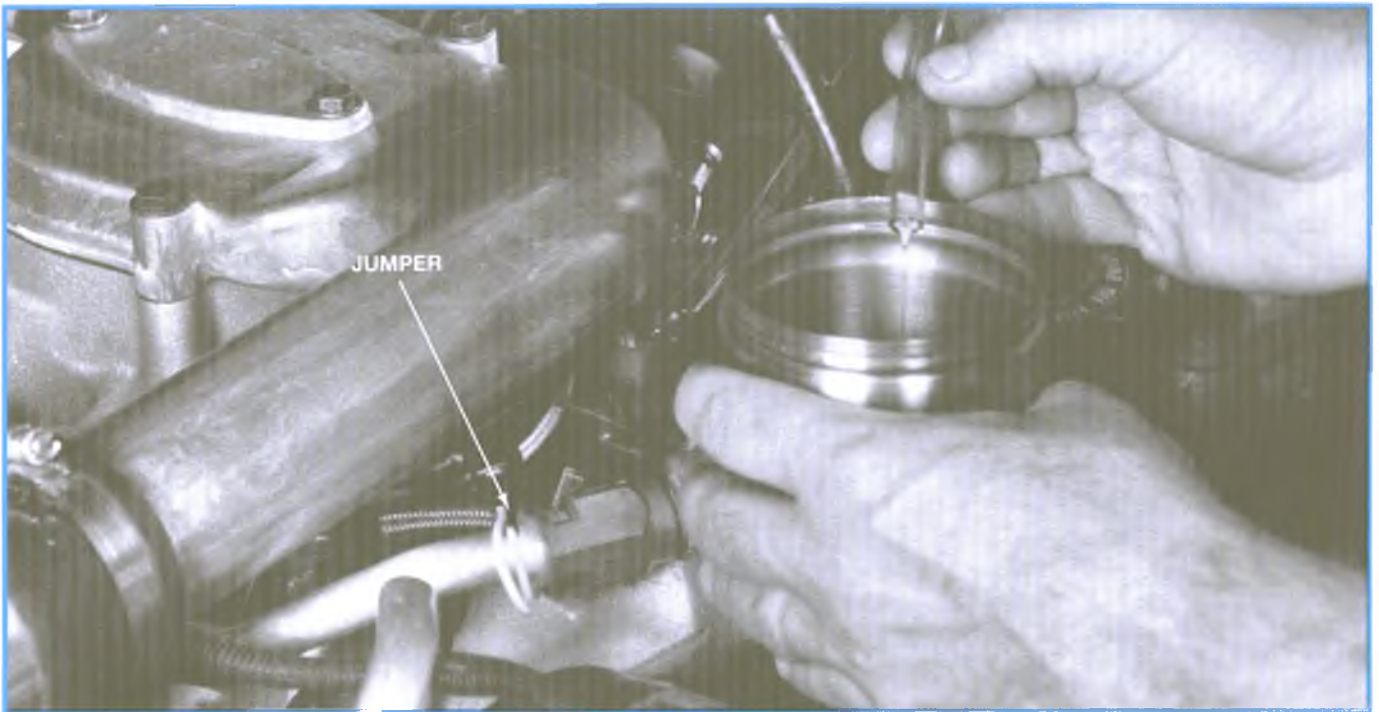

Figure 7-60, Fuel System Cleaning (2)
- U. Start and run the engine for 15 minutes while fuel flows from the fuel return line into a metal container (see Figure 7-60).